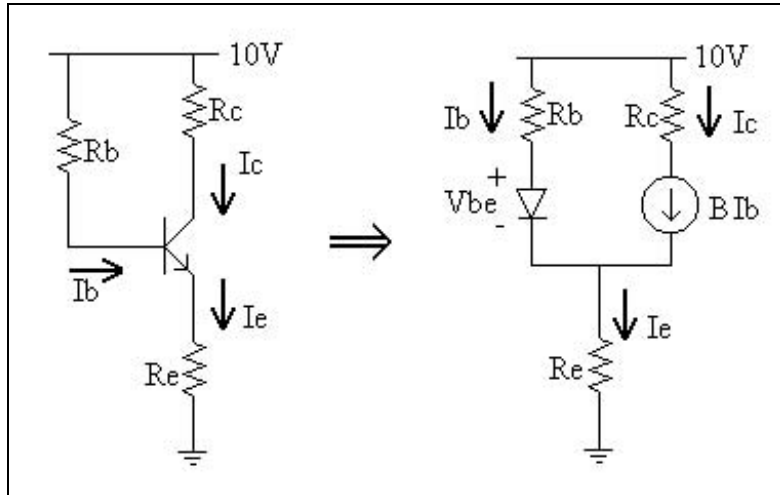

Figure 2.3: Circuit for Determining β
Now look at Fig. 2.3. In designing BJT circuits, it is often important to ascertain DC voltage levels at the base (V_B), emitter (V_E) and collector (V_C). For this figure, these DC levels are determined by applying the following loop equations:
1. Set up the circuit in Fig. 2.3. Let $R_E = 500, R_C = 500, R_B = 200K$. By measuring the voltages V_C, V_B , and V_E , and solving the appropriate loop equations, determine I_C, I_B , and I_E , respectively. Verify that $I_C \approx I_E$. From the ratio $\frac{I_C}{I_B}$, calculate β . Note that the BJT is in the forward active region. A NPN BJT is in forward active when $V_C > V_B > V_E$.
- From your data, construct an equivalent circuit for the BJT by putting in an average value for β and an average value for V_{BE} into the circuit in Fig. 2.3. Compare your extracted value of β to our default value of 200.